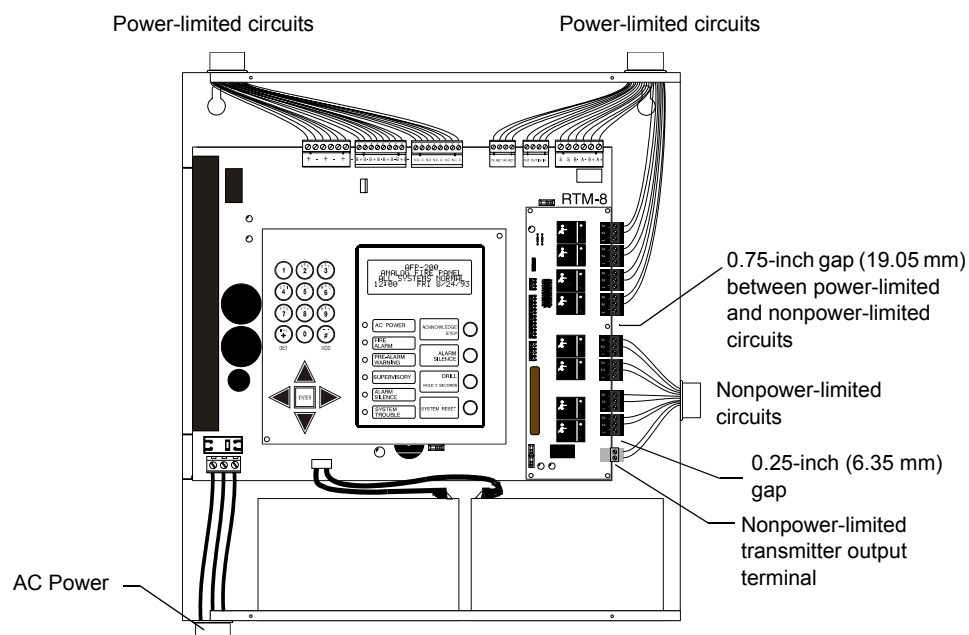

Figure 165 Typical Wiring Diagram for UL Power-limited Requirements
This appendix provides guidelines for power-limited and nonpower-limited UL wiring requirements. Figure 165 shows typical wiring for a circuit with power-limited and nonpower-limited wiring that meets UL requirements, which are as follows:
- Power-limited and nonpower-limited circuit wiring cannot enter and exit the cabinet through the same knockout or conduits. Separate power-limited and nonpower-limited wiring as shown in Figure 165.
Figure 165 shows the RTM-8 module installed in the AFP-200 cabinet. Observe the following: